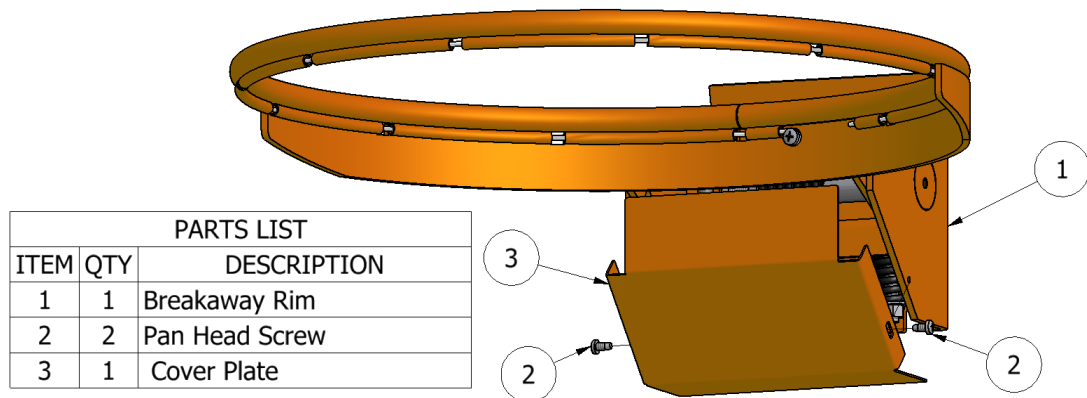

Figure 5-1: Cover plate removal/installation.
1. Remove cover plate from rim (Figure 5-1).
3. Reinstall cover plate (Figure 5-1).
1. Remove cover plate as shown in Figure 5-1.